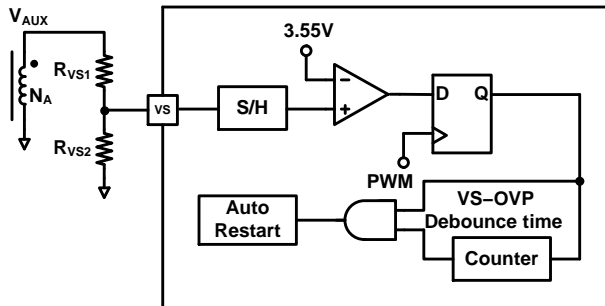

Figure 35. VS-OVP Protection Circuit
VS over-voltage protection prevents damage caused by output over-voltage condition. It is operated in Auto-Restart mode. Figure 35 shows the internal circuit of VS-OVP protection. When abnormal system conditions occur, which cause VS sampling voltage to exceed  $V_{VS-OVP}$  (3.55 V) for more than 2 consecutive switching cycles ( $N_{VS-OVP}$ ), PWM pulses are disabled and FAN604P enters Auto-Restart protection. VS over-voltage conditions are usually caused by open circuit of the secondary side feedback network or a fault condition in the VS pin voltage divider resistors. For VS pin voltage divider design,  $R_{VS1}$  is obtained from Equation (10), and  $R_{VS2}$  is determined by the desired VS-OVP protection function as